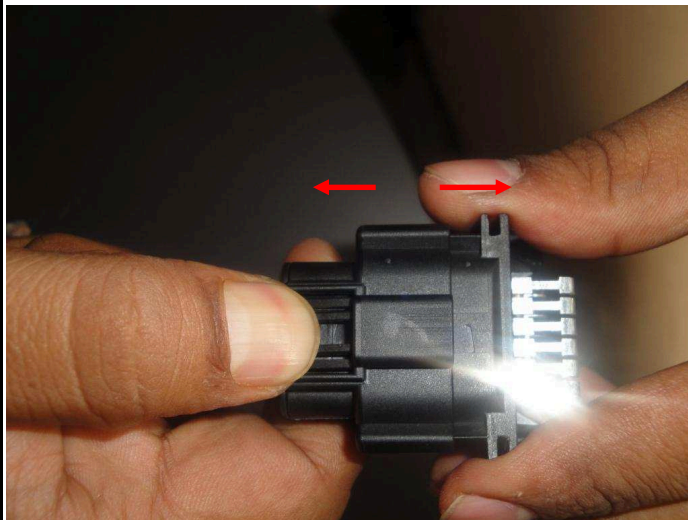

FIG. 2
2) Press the latch lever to disengage the latch and pull the receptacle as shown in Fig.2 & 3